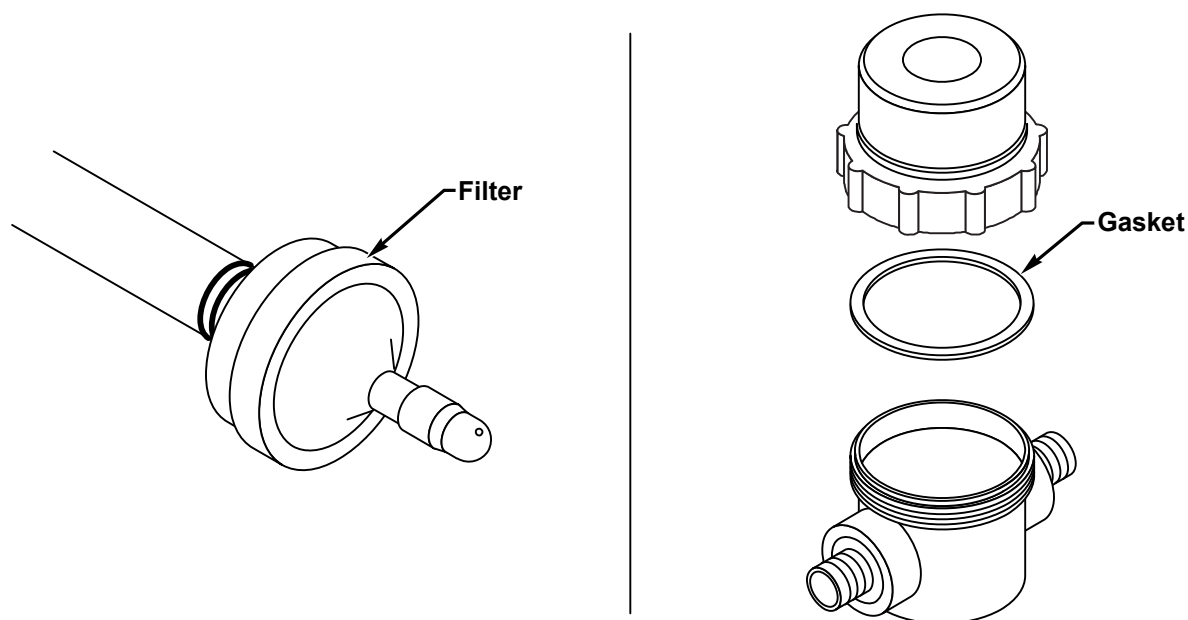

Figure 11- In-Line Gasoline Filter/Pulsation Dampner
- Replace the in-line gasoline filter. Using pliers, loosen the tension on the two hose clamps and slide them off of the filter barbs. Remove the old filter from the gasoline hose. Install a new filter and replace the hose clamps. New filters can be installed with the direction of flow going either way. Never reverse an old filter. Reference Figure 11.
- Check the pulsation dampers. The metering pump used on the fog generator tends to deliver a slightly pulsating flow of insecticide. For best aerosol particle size, a more even (non-pulsation) flow is desirable. A small air chamber pulsation damper is located in the metering pump outlet line between the pump and the discharge nozzle. It is a nylon assembly with an air dome that can be unscrewed by hand for inspection. There is a gasket that seals the joint between the air dome and the lower housing. The air dome should be checked periodically to make sure that it has not become filled with insecticide. If the dome has no air in it, it will not function as a pulsation damper. When reassembling, be sure that the sealing gasket is properly positioned so as to avoid damage caused by pinching. Applying a light coat of oil or grease will prevent pinching the gasket. Tighten the housing only hand tight when reinstalling. Do not use tools. Reference Figure 11.